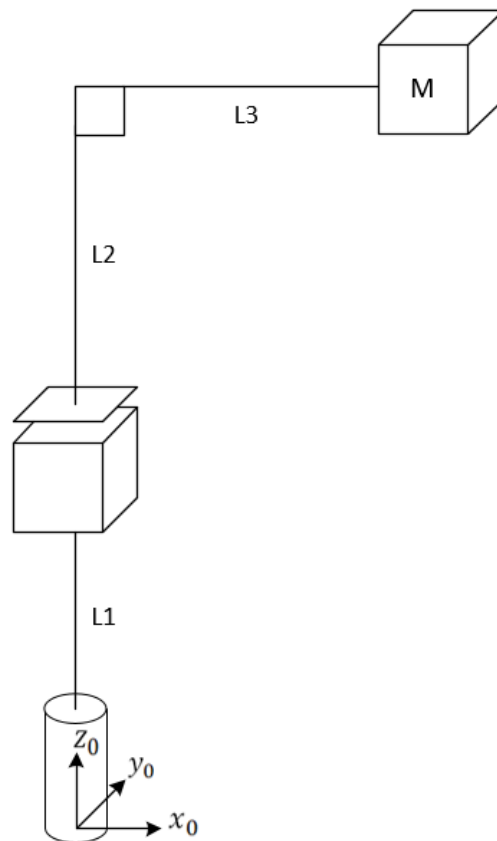

Figure 4: Simplified robot
Figure 4 shows a robot with two degrees of freedom. This is a simplification of the robot in exercise 2. Assume that the only mass is a point mass of  $M$  at the tool of the robot. We will not be considering the forces generated by the systems inertia.
- (10 %) Find the Lagrangian  $\mathcal{L}$  of the robotic system in Figure 4.